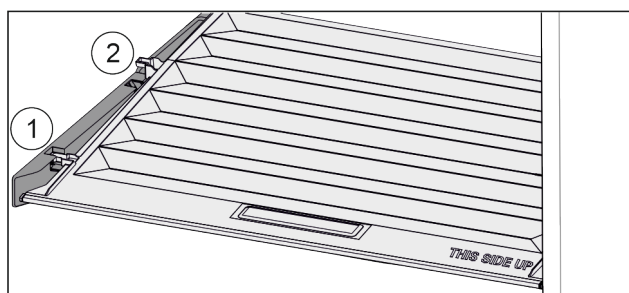

Fig. 107
- Pull the lid up at the front to the opening in the retaining parts Fig. 107 (1).
- Lift from the back and pull it up and out Fig. 107 (2).